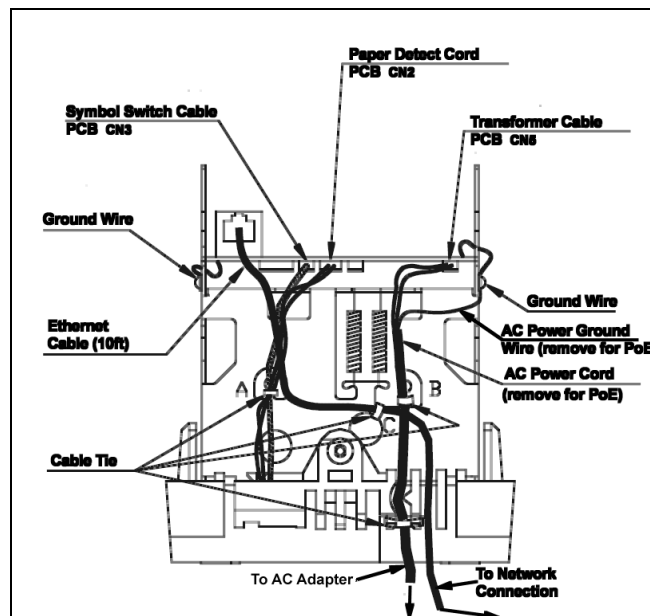

Figure 5. Rear View Showing AC Power Line For Removal.
12. Unscrew the Phillips head screw and remove the black ground wire for the AC line (see *Figure 5*). Remove the AC power line from the back of the clock with the transformer at the end. You may have to cut a couple of plastic wire ties to do this.